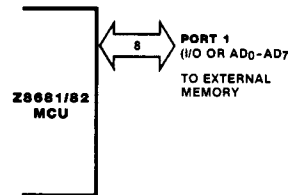

Figure 8. Port 1
**Port 1** is a dedicated Z-BUS compatible memory interface. The operations of Port 1 are supported by the Address Strobe ( $\overline{AS}$ ) and Data Strobe ( $\overline{DS}$ ) lines, and by the Read/Write ( $\overline{R/W}$ ) and Data Memory ( $\overline{DM}$ ) control lines. The low-order program and data memory addresses ( $A_0$ - $A_7$ ) are output through Port 1 (Figure 8) and are multiplexed with data in/out ( $D_0$ - $D_7$ ). Instruction fetch and data memory read/write operations are done through this port.